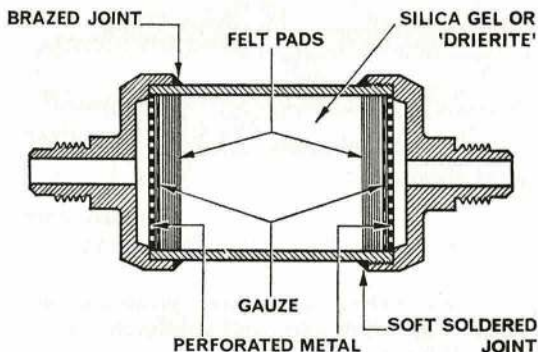

Fig. 8. FILTER DRIER
19. **Filter Drier.** This type of filter (Fig. 8) collects any foreign matter including water which is undesirable and may be present in the refrigerant. An agent such as **silica gel** is